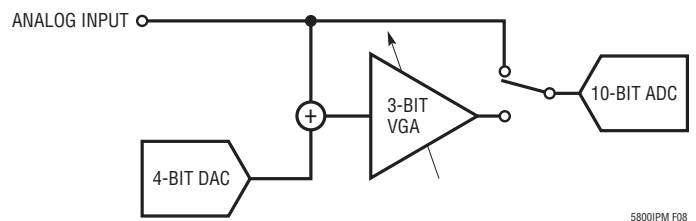

Figure 8. Analog Input Chain
**AI\_0, AI\_1, AI\_2, AI\_3:** Analog Inputs. These pins are multiplexed to the analog input chain. The analog input chain, as shown in Figure 8, is software-configurable and includes a variable-gain amplifier, an offset-DAC for adjusting input range, and a 10b ADC. Valid input range is between 0 to 1.8V. Analog inputs can be sampled as described in the Signal/Data Acquisition and Control section.